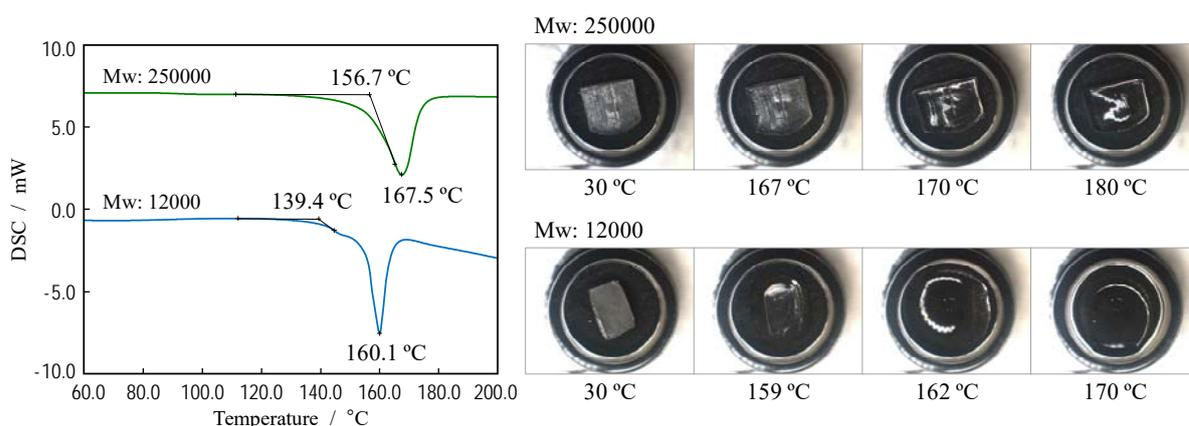

Fig. 1 Measurement Results for PP by Sample Observation DSC System
Low molecular polypropylene (PP) showed a shape change around peak top, and it was observed the sample flowed and spread in the sample pan. The high molecular weight PP also changed its shape near the peak top, but it maintained its shape even after the end of the peak. It is assumed that the smaller a molecular weight become, the easier a sample flowing (Fig. 1).